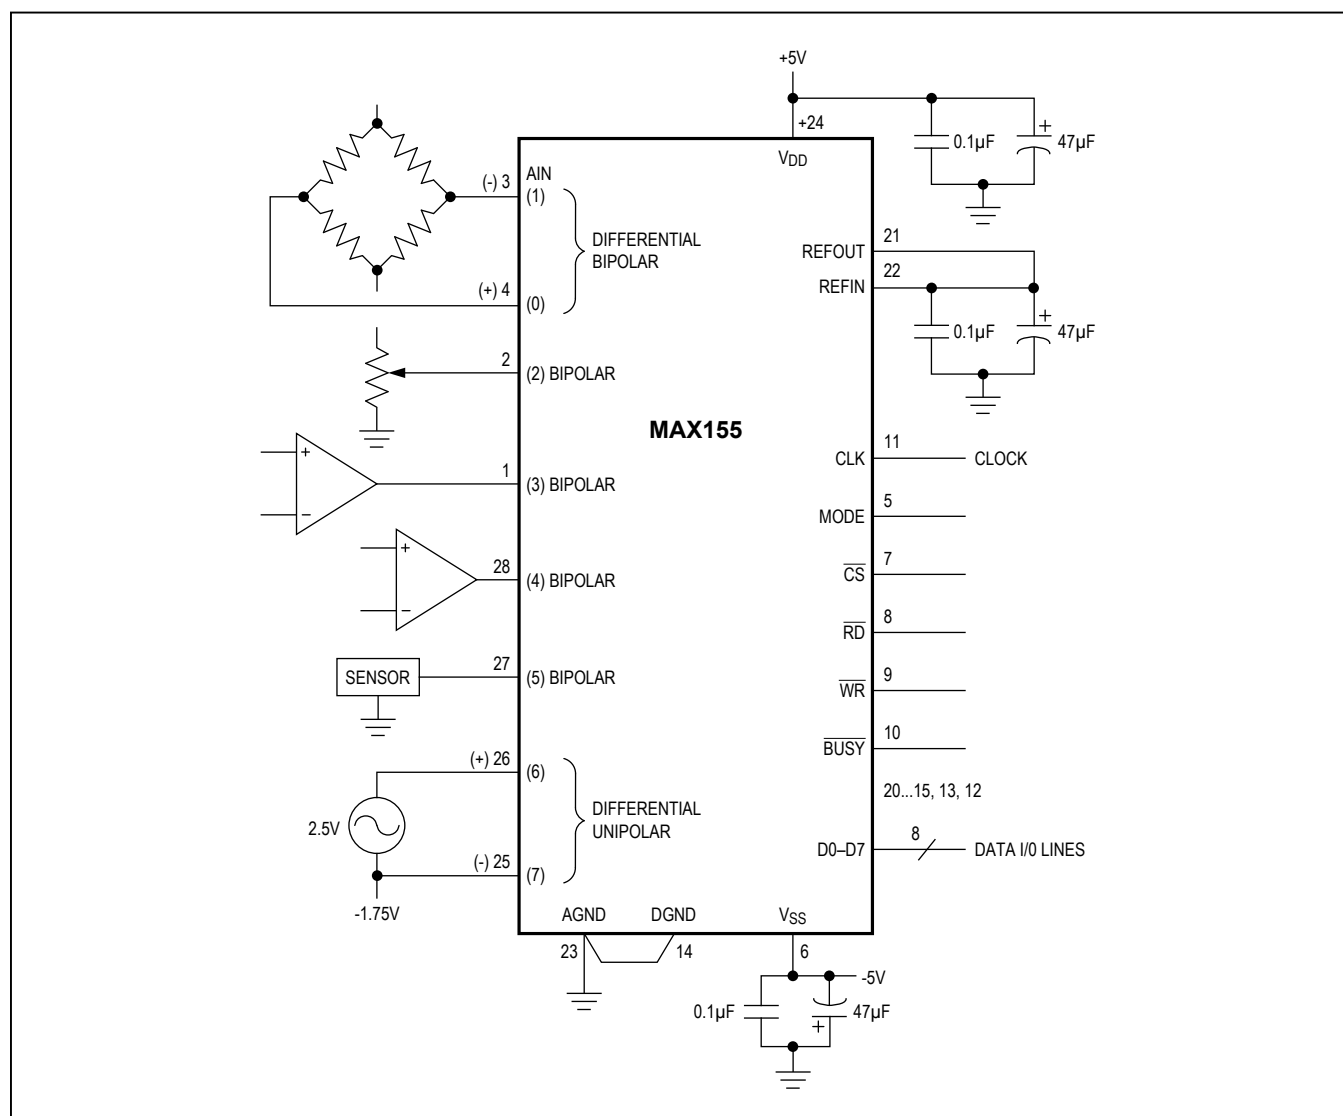

Figure 10. MAX155/MAX156 Typical Operating Circuit
where N is the number of channels converted. This includes one clock cycle of uncertainty. For a single channel and 5MHz clock, the conversion time is $(9 \times 1 \times 2) / 5\text{MHz} = 3.6\mu\text{s}$. For the MAX155, the maximum conversion time for 8 channels is $(9 \times 8 \times 2) / 5\text{MHz} = 28.8\mu\text{s}$. In the application example (Figure 10), six conversions are configured, and the conversion time is $(9 \times 6 \times 2) / 5\text{MHz} = 21.6\mu\text{s}$.
The MAX155/MAX156 address and configuration inputs for this example were determined by selecting the desired channel configurations in Tables 2 and 3. Figure 10 illustrates the configuration outlined in Table 5.
- 3) Data is read from RAM with $INH = L$ and consecutive $\overline{RD}$ strobes. Note that in the 6 channel configurations described in this example (Figure 10), 6 $\overline{RD}$ pulses access all available data, start with the differential channel (1, 0). Additional $\overline{RD}$ pulses loop around, accessing the lowest channel data again.